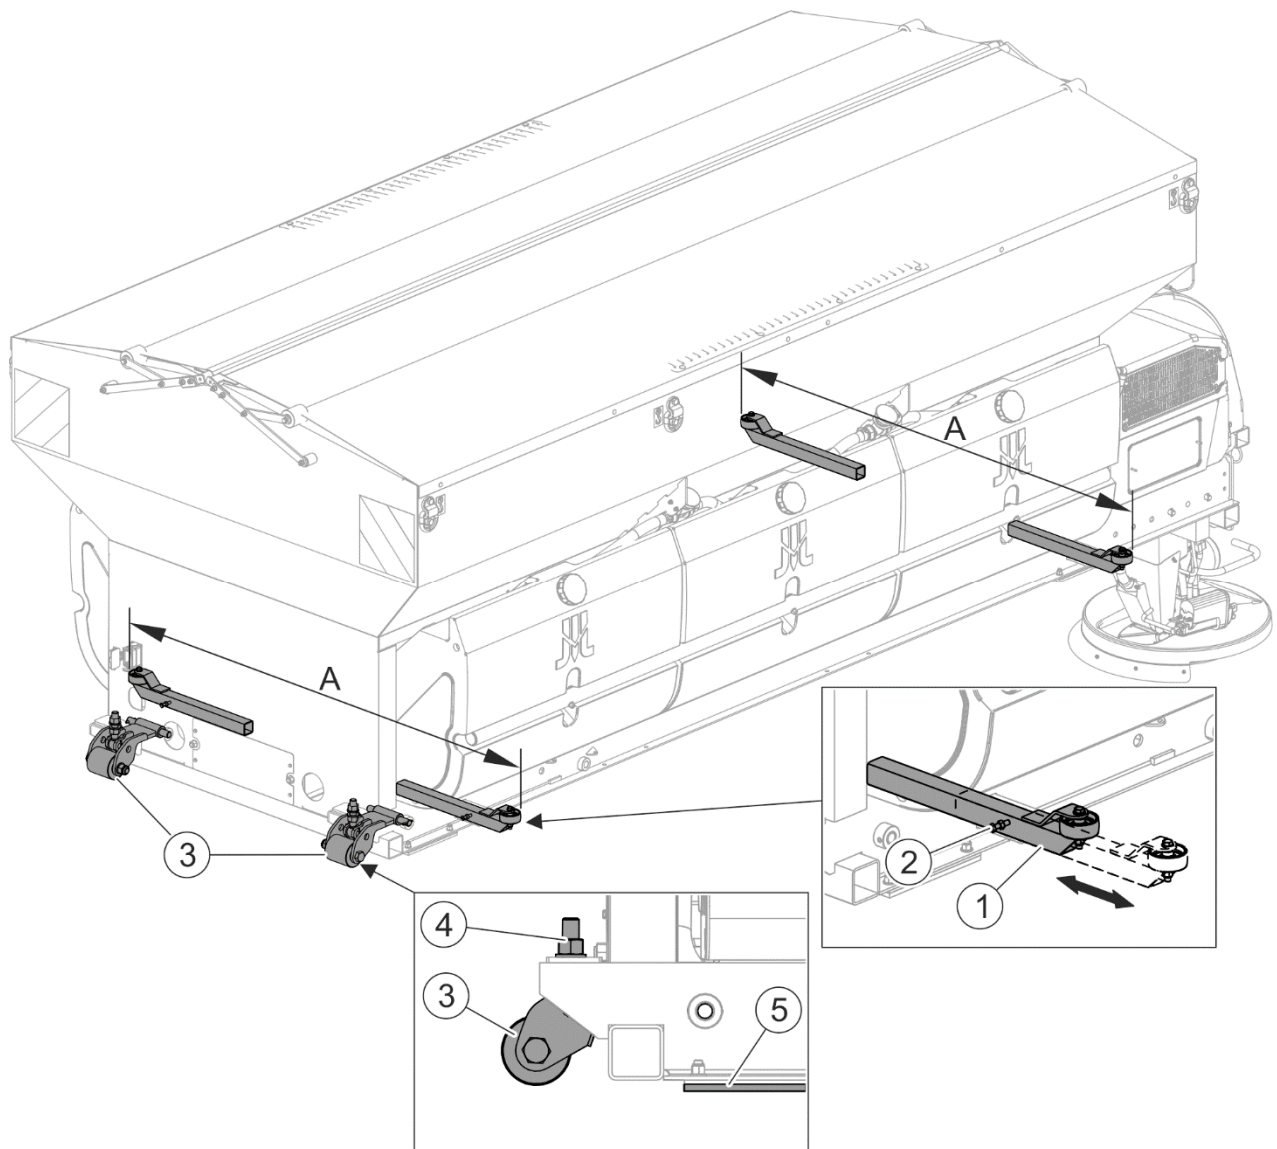
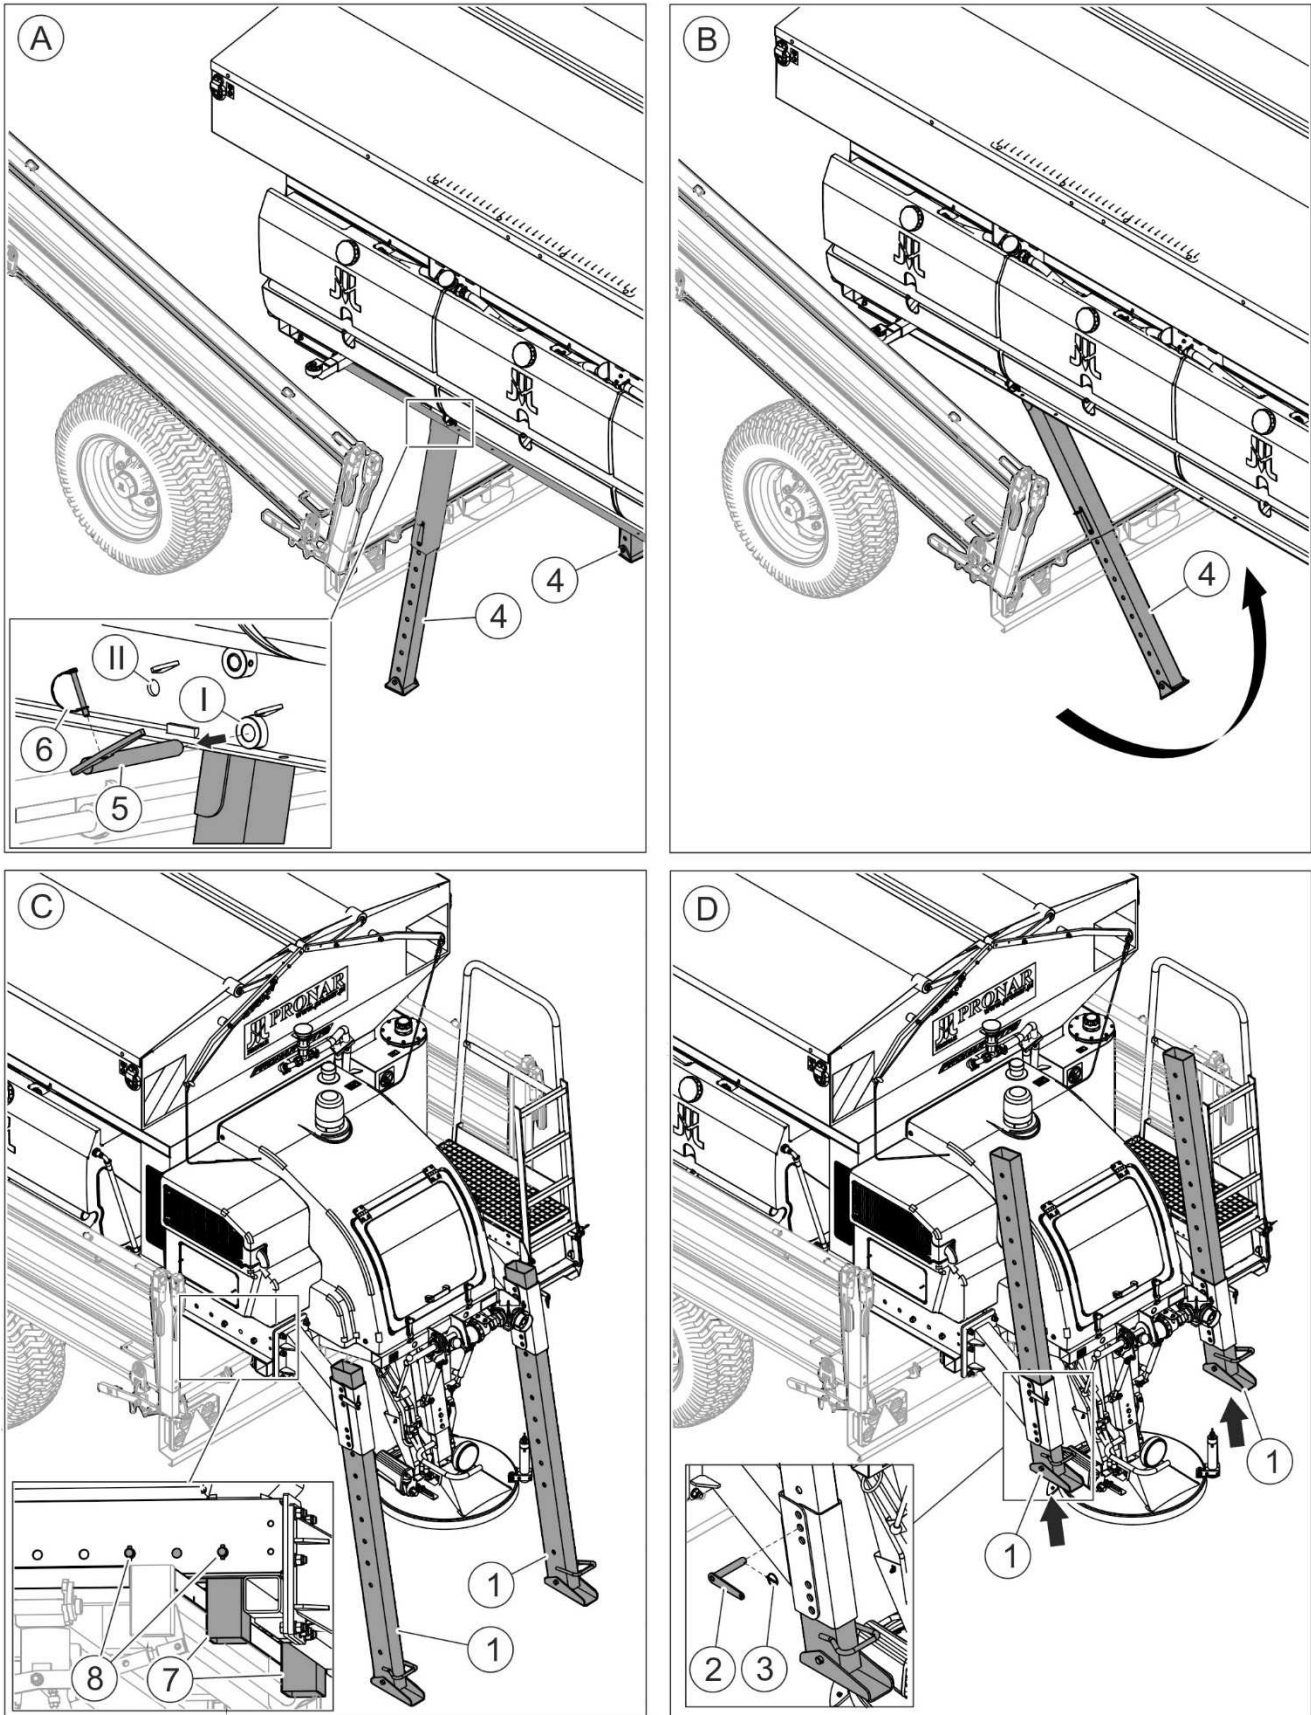

FIGURE 4.2 Guides
FIGURE 4.3 Machine loading stages
To set the sand spreader position on the carrying vehicle with side walls, use adjustable guides (1) with wheels (FIGURE 4.2) and stops (7) (FIGURE 4.3) installed from the bottom of the frame in the rear of the machine. Set the front and rear guides in such a manner as to ensure that dimension (A) is slightly smaller than the internal width of the carrying vehicle's load platform (FIGURE 4.2).
Guides (FIGURE 4.2) are used in carrying vehicles which have sufficiently strong side walls of the load platform.
The use of guides (FIGURE 4.2) depends on the method of fixing the machine on the load platform (see 4.3.2 SECURING THE MACHINE TO THE CARRYING VEHICLE'S LOAD PLATFORM).
- Unlock the front parking stands (4) on both sides of the machine by unlocking cotter pins (6) and removing securing pins (5). Relocate the pins from hole (I) in the spreader's frame to hole (II) (A - FIGURE 4.3).
- Raise the load platform to such a height (minimum 1,5°) as to ensure that rollers (3) (FIGURE 4.2) are supported on the platform floor (the rollers should be set in such a manner as not to touch the platform floor when the machine is loaded).
- While the carrying vehicle is being reversed with the load platform raised, the front parking stands (4) will be raised above the ground and folded automatically (B - FIGURE 4.3).
- Reverse the carrying vehicle until the stops (7) rest on the rear edge of the platform. The position of the stops should set earlier by means of locking pins (8), depending on the platform length (C - FIGURE 4.3).
- When the machine is set on the carrying vehicle's load platform, unlock cotter pins (3) and remove pins (2). Raise the rear parking stands (1) and secure them with pins (2) and cotter pins (3) (D - FIGURE 4.3).